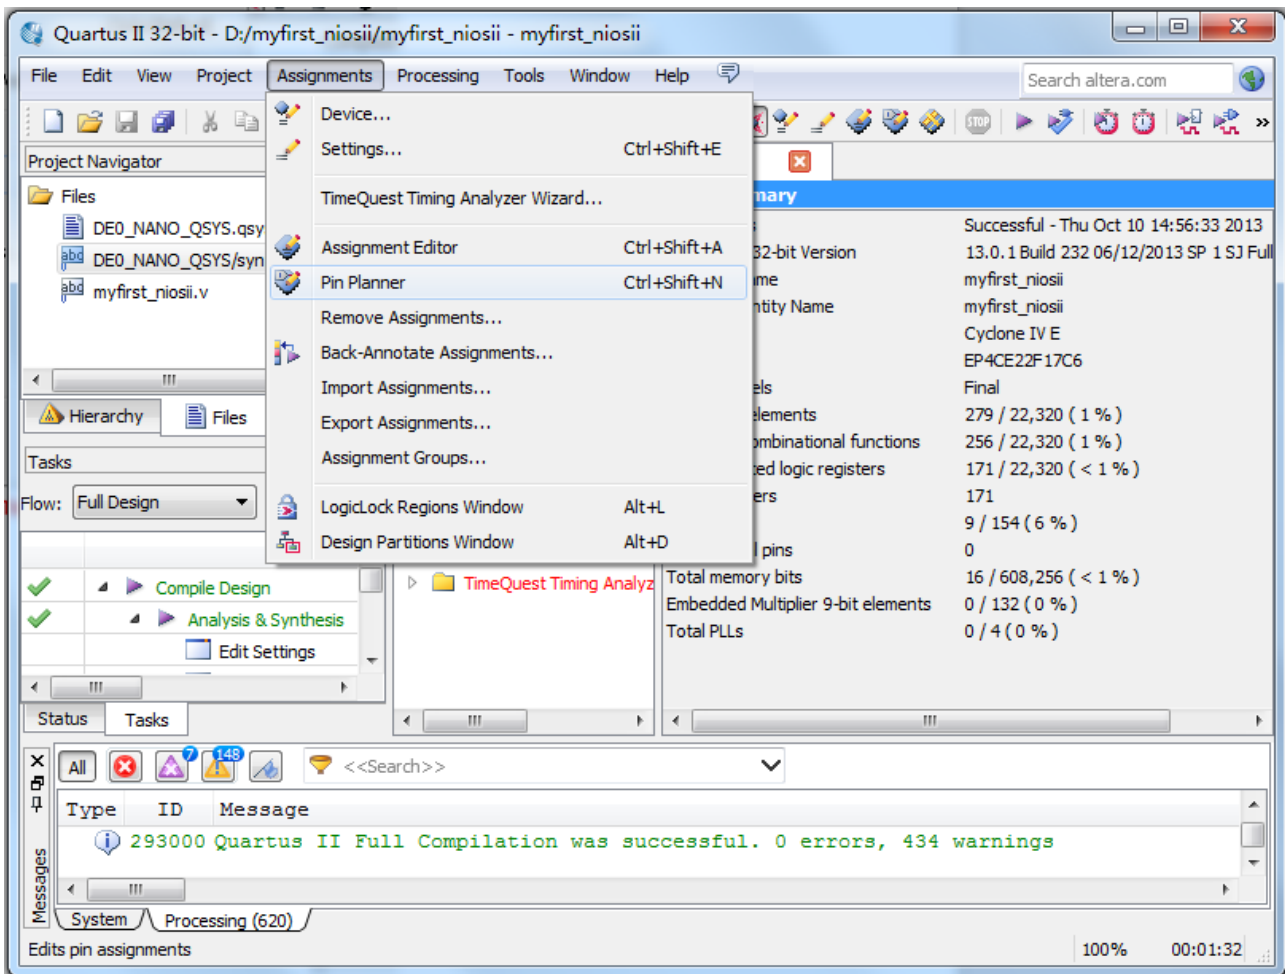
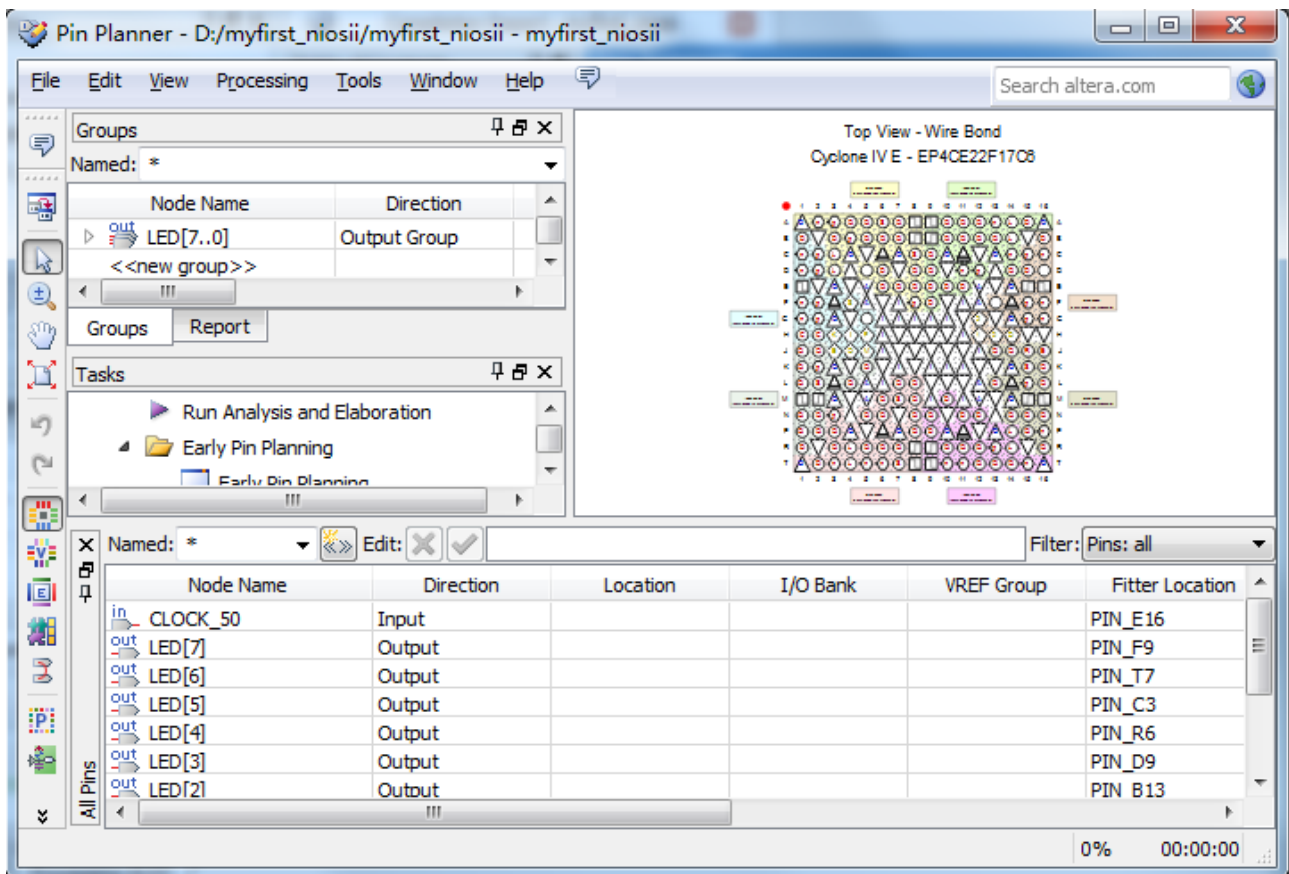

Figure 1-65 Pins menu
Figure 1-66 Blank Pins
39. Choose Assignments > Pins to open pin planner as shown in **Figure 1-65**. **Figure 1-66** show blank pins.